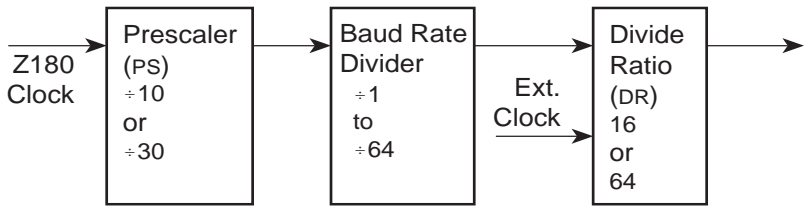

Figure 3-17. Z180 Baud-Rate Generator
The prescaler (PS), the divide ratio (DR), and the SS bits form a baud-rate generator, as shown in Figure 3-17.